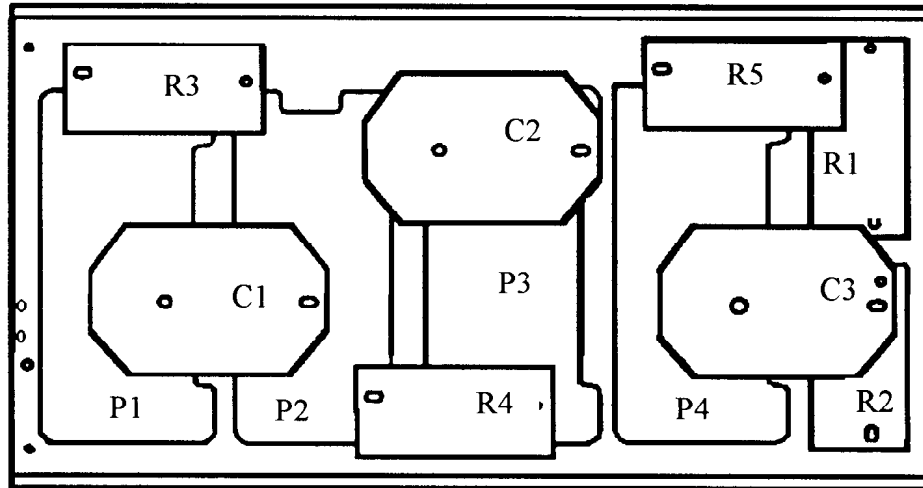

Figure 7
2. Refer to the platform designators when applying the barcode labels to the FPC pipettor (refer to Figure 7).